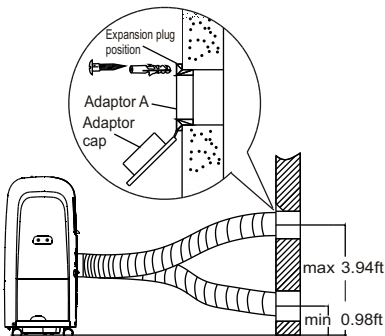

Fig. 21
1. Prepare a hole in the wall. Install the wall Exhaust adaptor A onto the wall(outside) by using 4 expansion plugs and wooden screws, be sure to fix thoroughly. (See Fig.21)